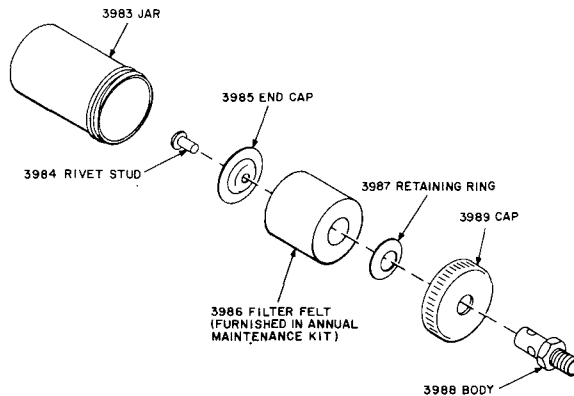

Fig. 3—3982 Intake Air Filter
2.06 Replace the intake filter (Fig. 3) every six months as follows: